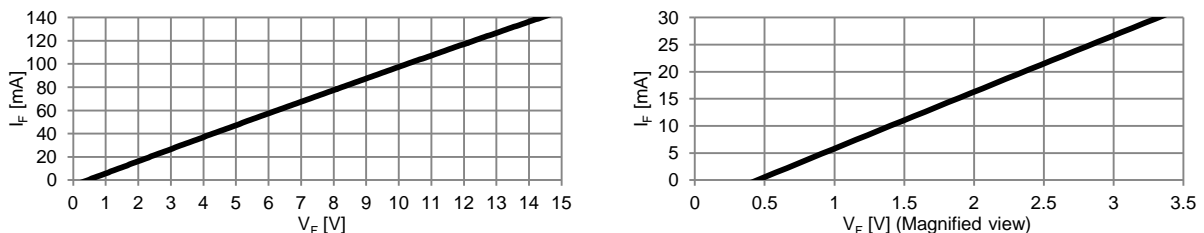

Figure 2. Built-in Bootstrap Diode V_F - I_F Characteristic (@ $T_a=25^\circ\text{C}$).
- The characteristics of bootstrap diode are described in Figure 2.